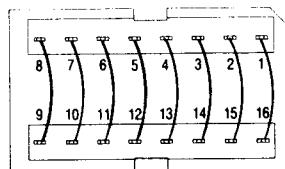

Figure 3-7
2. Remove the Configuration Header, board location 3A, and replace it with a 16-pin header wired as shown in Figure 3-7.